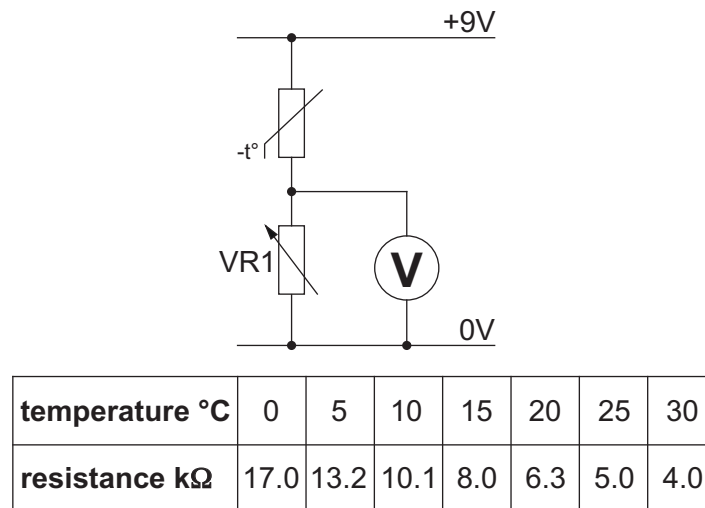

Fig. 11.2
- (ii) Fig. 11.2 shows a potential divider circuit that could be used with the temperature sensing transducer. A table of resistance readings for the transducer is shown.
- (iv) Use sketches and notes to show an additional circuit to that shown in Fig. 11.2 that would make the signal from the transducer suitable for connection to a logic system.